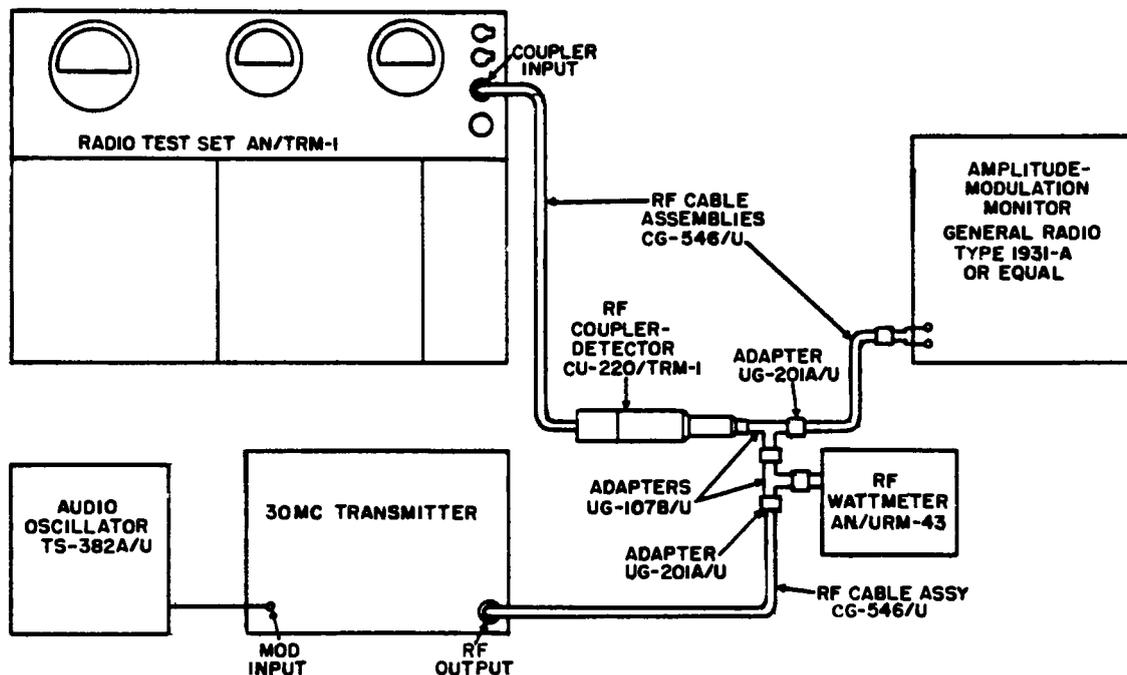

Figure 11-3. Set-up for Percentage Modulation Performance Test
11-20. PERCENTAGE MODULATION PERFORMANCE TEST. (See figure 11-3.)
11-21. Performance of this characteristic is checked by using the following equipment in a typical test set-up illustrated in figure 11-3:
- a. Turn the output control on the test audio-oscillator to provide minimum or no output. Referring to figure 11-3, it can be seen that the 30-mc transmitter would be then operating under cw conditions, that is, with no modulation.
11-24. Performance of this characteristic is checked by using the same equipment indicated in the typical test set-up illustrated in figure 11-3, with the exception that Radio Test Set AN/TRM-1 under test is used in place of the audio-oscillator to modulate the 30-mc transmitter.